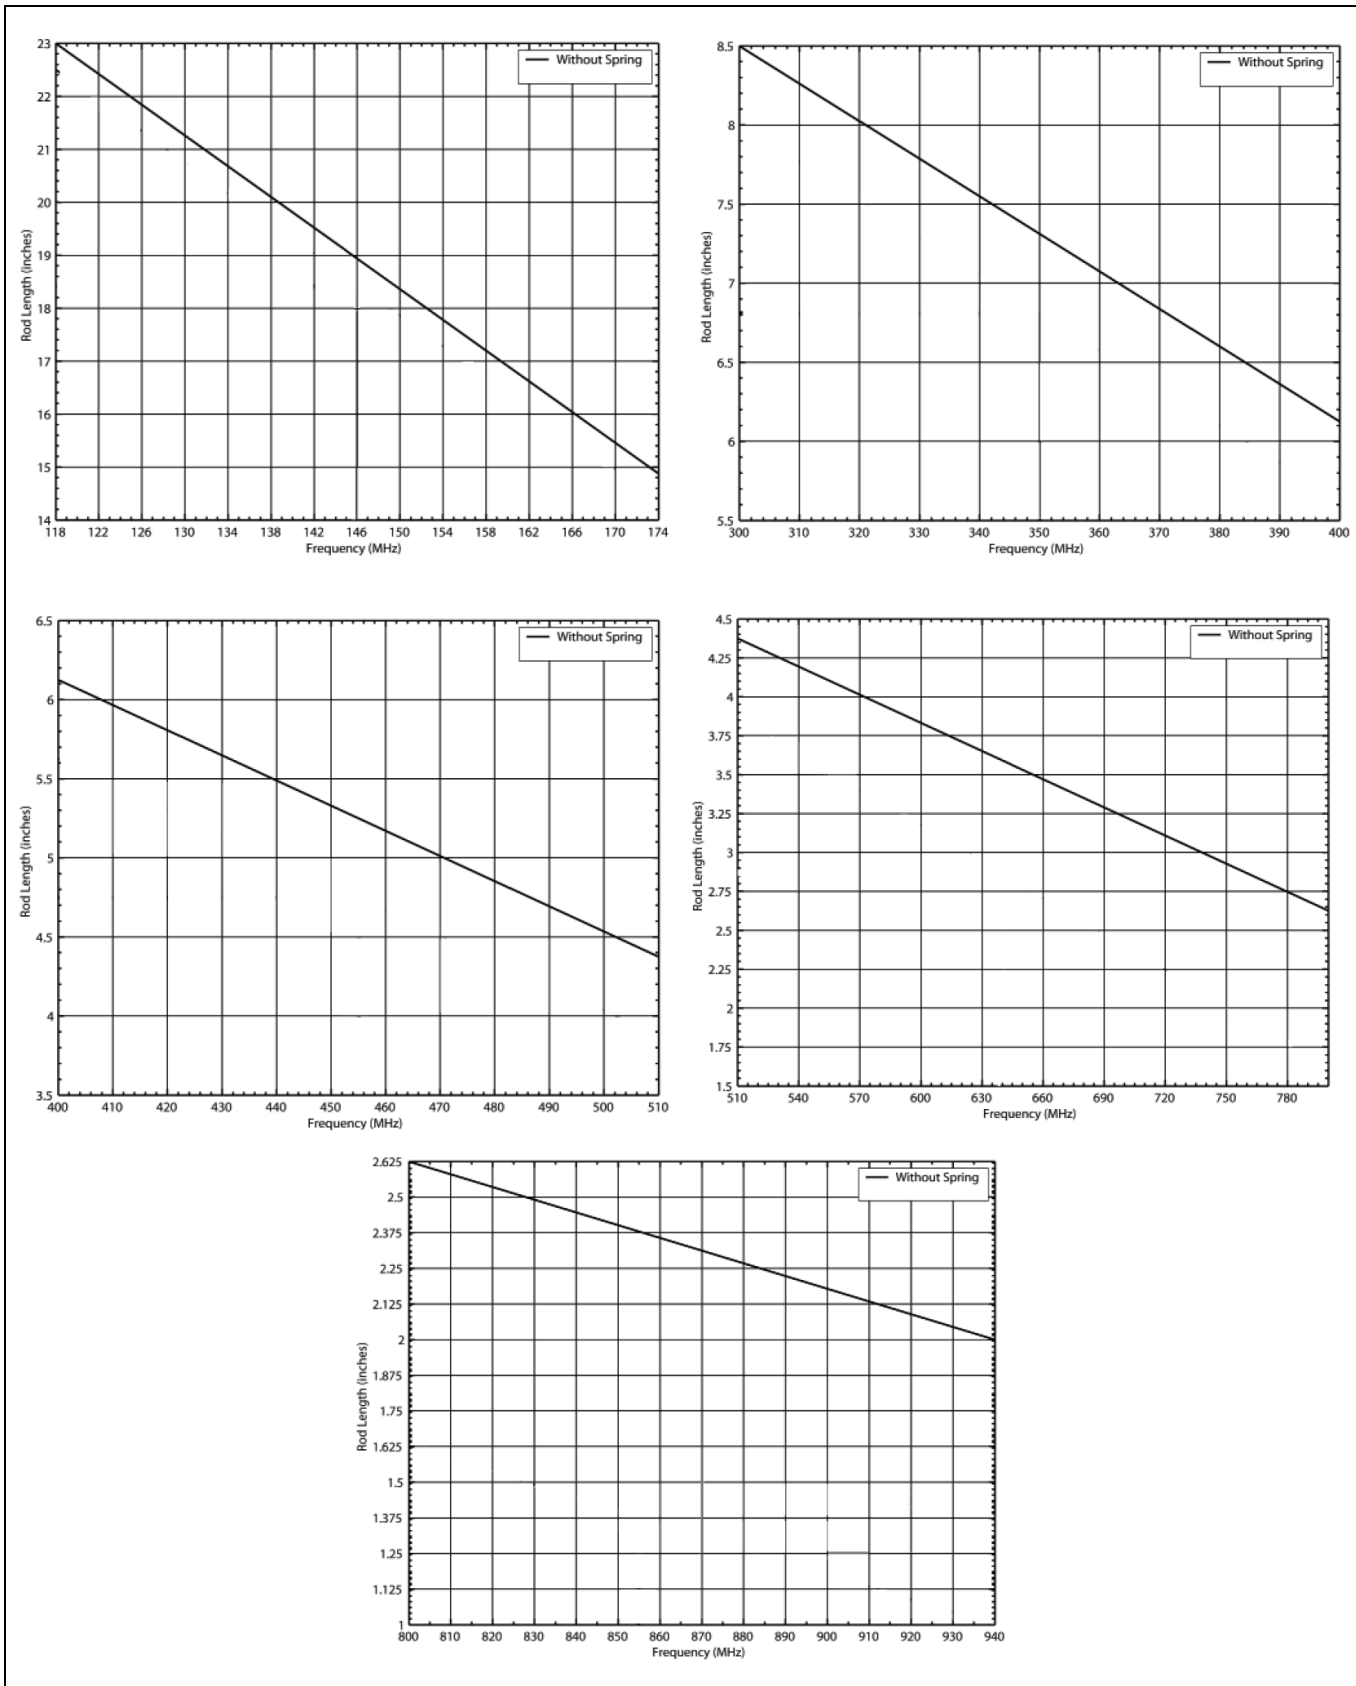

Figure 6-7: Cutting Charts for Antenna Element AN-225006-001
- Part number **AN-225006-001** (132 – 960 MHz, 0 dBd) — For length cutting information, see the charts in Figure 6-7 on page 32, and/or the instructions included with the element.